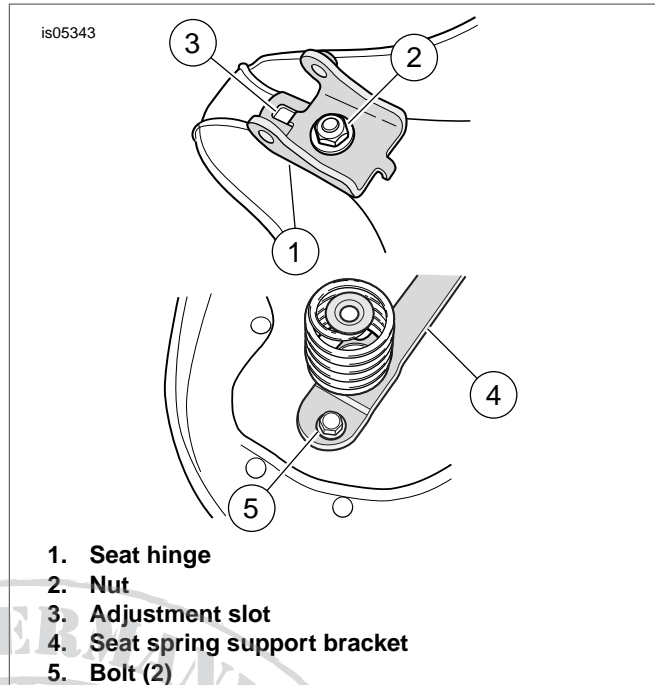

Figure 3. Seat Adjustment
2. See Figure 3. Remove the nut (2) from the seat hinge (1).
3. Remove the bolts (5) from the seat spring support bracket (4).
- a. Install hinge with the front tab (2) in the slot.
- b. Install the seat spring support bracket with springs toward the rear of seat (3).
- a. Install hinge with the rear tab (5) in the slot.
- b. Install the seat spring support bracket with springs toward the front of seat (6).
5. See Figure 3. Install nut (2) on seat hinge (1) and tighten to 20-25 ft-lbs (27.1-33.9 Nm).
6. Install screws (5) for seat spring support bracket (4). Tighten to 15-20 ft-lbs (20.3-27.1 Nm).